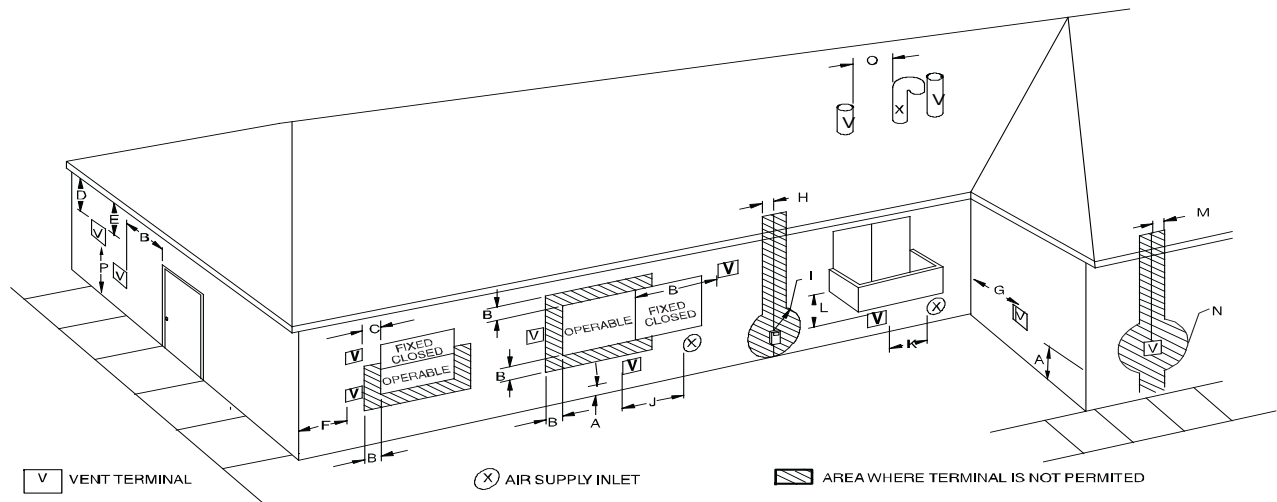
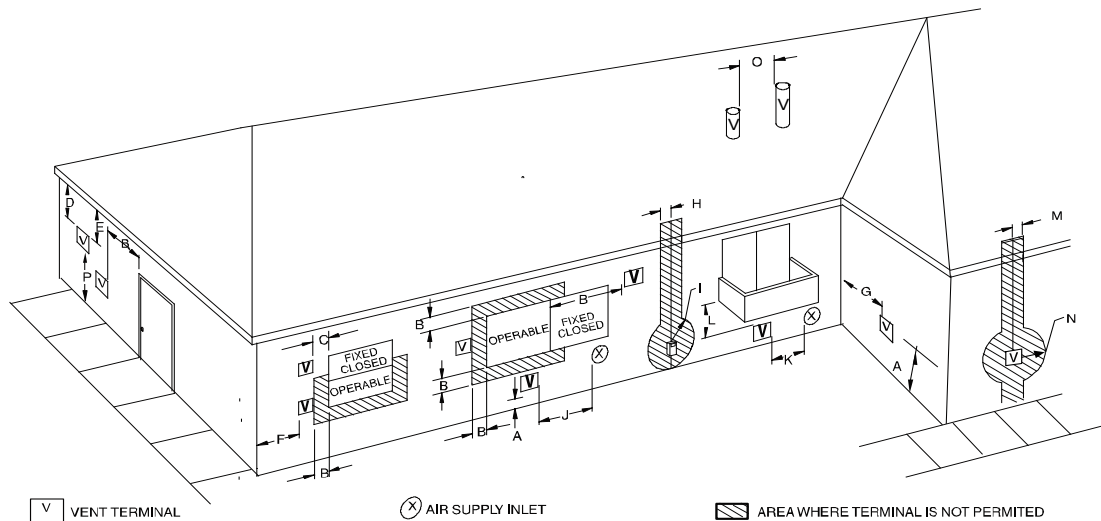
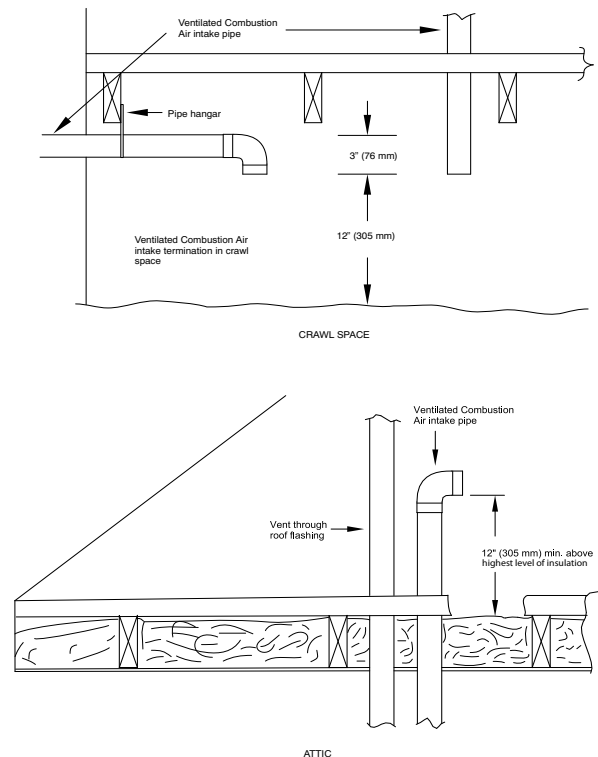

Fig. 43 – Direct Vent Termination Clearance
Fig. 44 – Ventilated Combustion Air and Non-Direct Vent Termination Clearance
Fig. 48 – Vent Terminations for Ventilated Combustion Air
In a direct-vent (2-pipe) system, all air for combustion is taken directly from outdoor atmosphere, and all flue products are discharged to outdoor atmosphere. Combustion-air and vent pipes must terminate together in the same atmospheric pressure zone, either through the roof (preferred) or a sidewall. See Fig. 43 for references to clearances required by National Code authorities.
In a ventilated combustion air option, the vent terminates and discharges the flue products directly to the outdoors similar to a direct vent system. See Fig. 44 for references to clearances required by National code authorities.
outdoor atmosphere. Air for combustion must be supplied as described in the Air For Combustion and Ventilation Section. Do not use an abandoned chimney to supply outside air to the furnace. See Fig. 44 for references to vent clearances required by National code authorities.
For vent termination clearance, references to National codes are shown in Fig. 43 for Direct Vent/2-Pipe system and Fig. 44 for Ventilated Combustion Air/Non-direct Vent/1-Pipe system. For exterior termination arrangements, refer to Fig. 40 for Direct Vent/2-Pipe system and Fig. 41 for Ventilated Combustion Air/Non-Direct/1-Pipe system. Contact Local code authorities for other requirements to and/or exemptions from the National codes shown in the figures.
1. Comply with all clearance requirements stated in Fig. 43 or Fig. 44 per application.
Direct vent (2-pipe) vent and combustion air pipes must terminate outside the structure. See Fig. 43 for references to vent clearances required by National code authorities. Allowable vent and combustion air terminations are shown in Fig. 40.
The vent pipe for a Ventilated Combustion Air System must terminate outdoors. See Fig. 44 for references to vent clearances required by National code authorities. Allowable vent terminations are shown in Fig. 41. The combustion air pipe terminates in a well-ventilated attic or crawl space. Follow the clearances as shown in Fig. 48.
The vent pipe for a Non Direct Vent (1-pipe) system must terminate outdoors. See Fig. 44 for references to vent clearances required by National Code authorities. Allowable vent terminations are shown in Fig. 41.